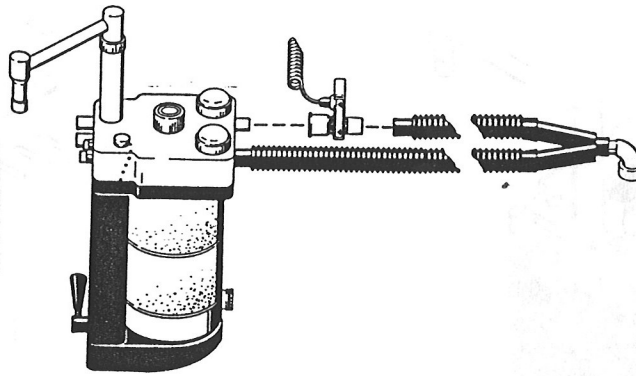

Figure 2-12
2. Install the sensor cartridge between the absorber's exhalation port and the expiratory limb of the breathing system. You may also install the cartridge at the proximal end of the "Y" connector. (See figures 2-12 and 2-13.) When a Bain circuit and Bain circuit adapter is used with the system, the cartridge must be placed in the proximal position. (See Appendix H for details of using the volume sensor assembly with a Bain circuit.) If you do choose the proximal position, each time you switch on the system, you must use the Setup Page to disable the reverse flow alarm.